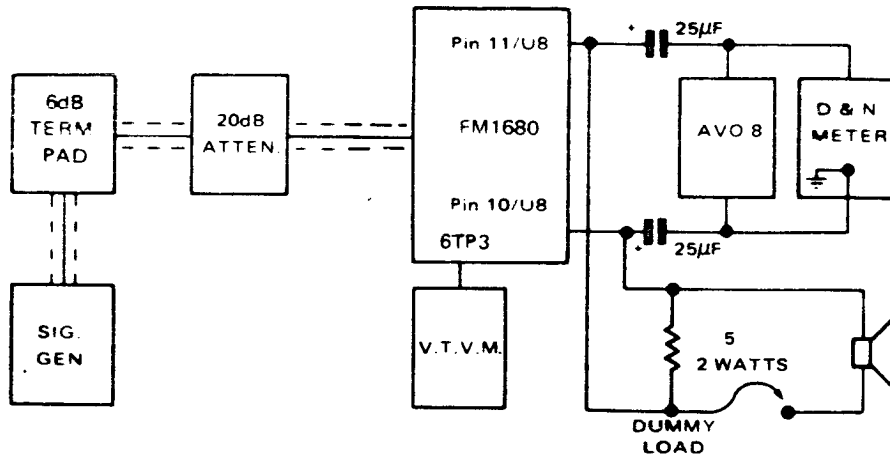

Figure 3
1. Set up the equipment as shown in Figure 3.
4. Adjust trimmers 4C1, 4C3, 4C6, 4C10 and 4L9 for maximum S/N ratio while gradually reducing the output of the signal generator until a S/N ratio of 32 dB (N) or 40 dB (NW) is obtained with an input of 1 μ V.
7. Tune 4C3 for maximum S/N ratio while decreasing the output of the signal generator to maintain a S/N ratio of 32 dB (N) or 40 dB (NW).
10. Re-tune 4C6, 4C10 while decreasing the output of the signal generator until a S/N ratio of 32 dB (N) or 40 dB (NW) is obtained.